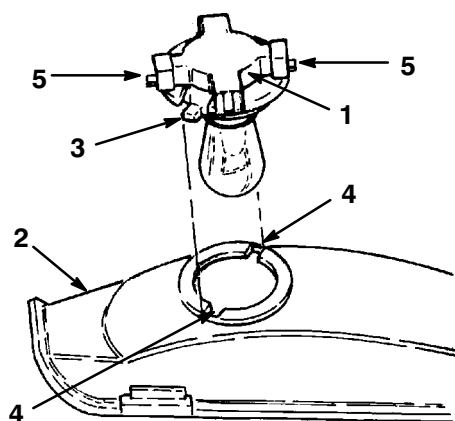

Figure 47
3. Rotate the bulb holder 1/4 turn counterclockwise and remove it from the reflector (Fig. 47).
2. The bulb holder has two tabs (Fig. 47). Align the tabs with the slots in the reflector, insert the bulb holder into the reflector and rotate it 1/4 turn clockwise until it stops.